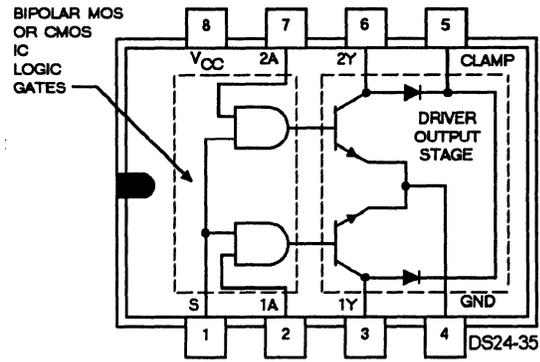

Figure 4-35.—Example of a peripheral driver IC.
- Peripheral drivers—Peripheral drivers receive an input from bipolar or MOS logic gate output and drive the output stage so that relatively large output currents can be controlled with low-level logic signals. Peripheral drivers use a single input and output application. They are very useful for driving indicator lamps or drive relays. See figure 4-35.